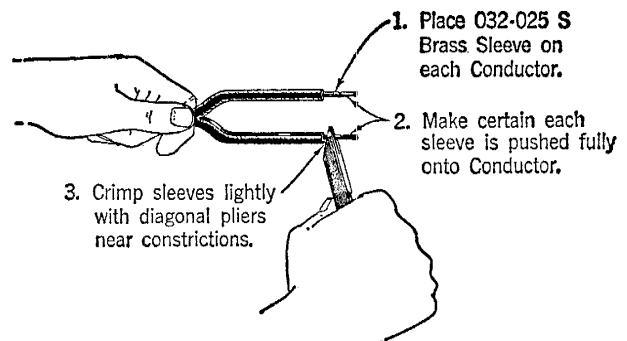

Fig. 5
3.01 Place 032-025 S Brass Sleeves on the bared ends of each conductor as shown in Fig. 5.